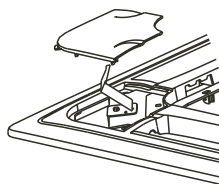

Fig. 4-11
- Wrench off the bolts, loose the rope of the installation covers, and remove them. (Refer to Fig.4-11)